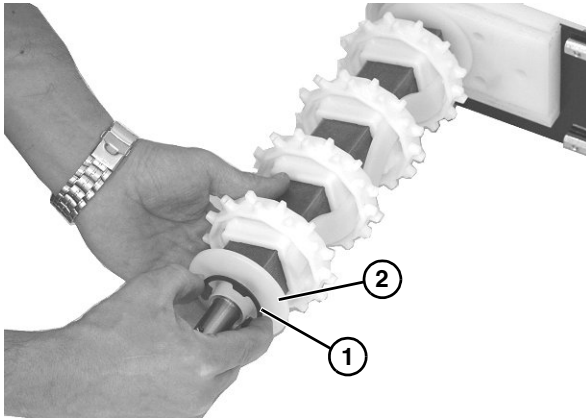

Figure 43
9. Remove retaining clip (**Figure 43, item 1**) and flanged puck (**Figure 43, item 2**) from drive spindle.